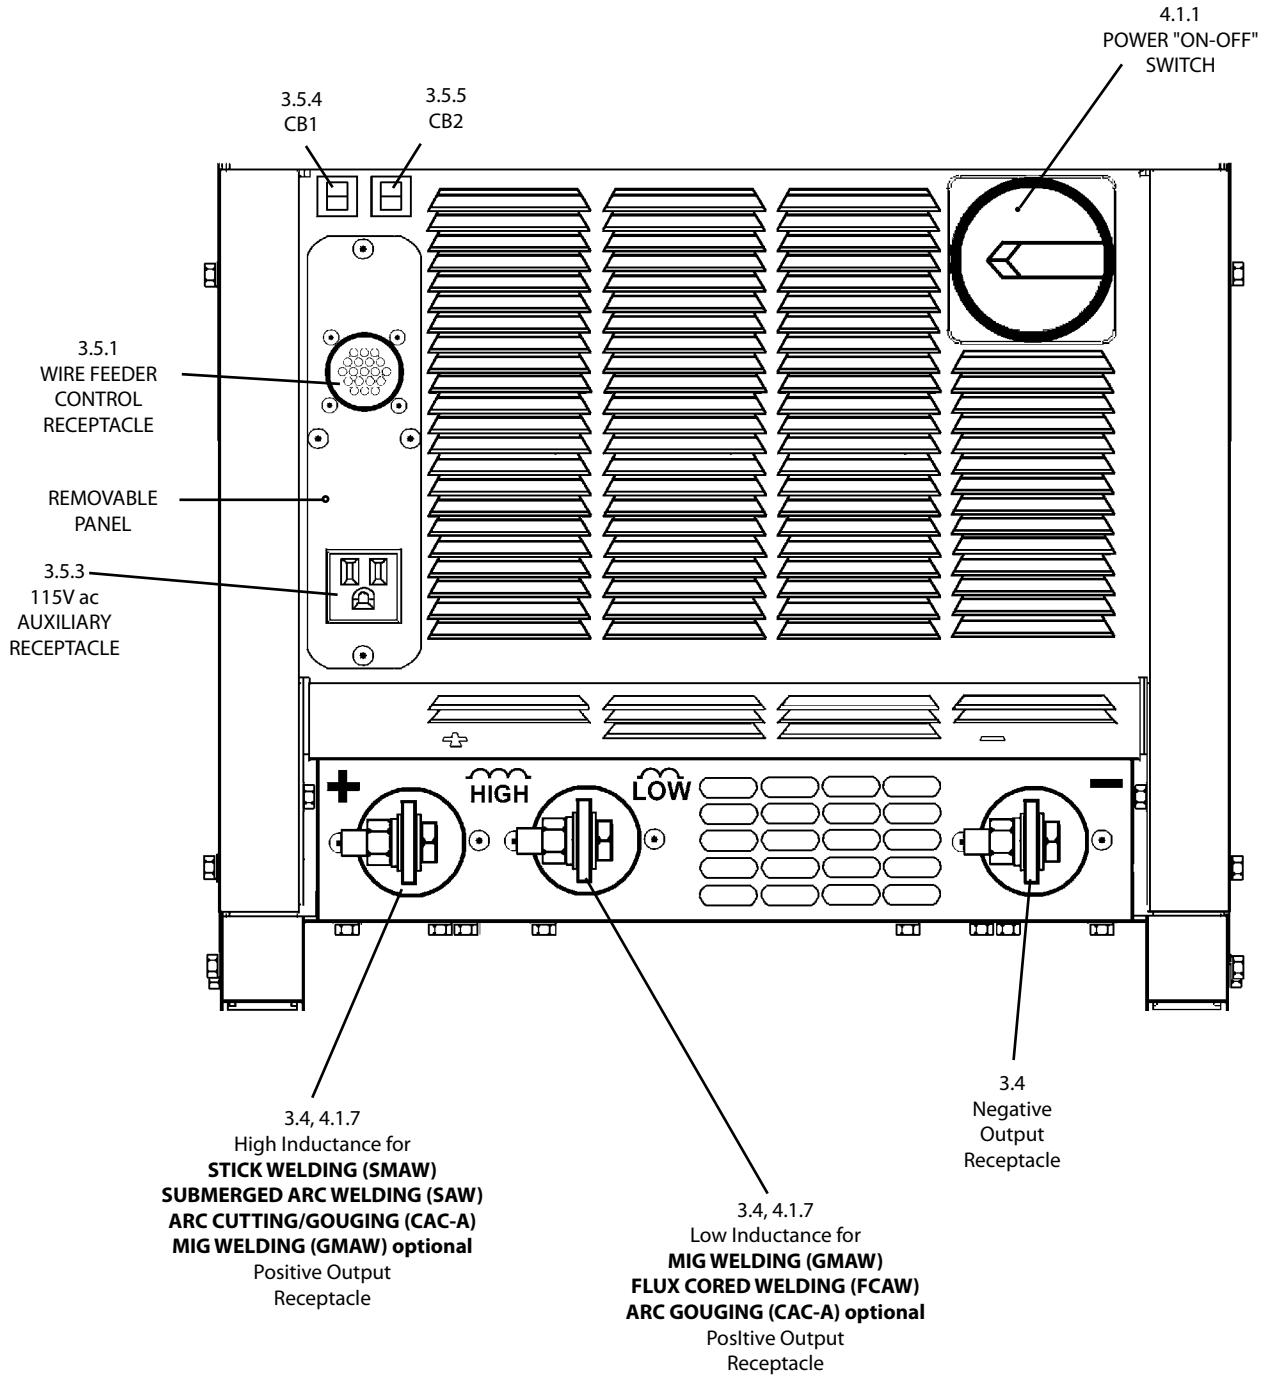

Figure 3-5. Connection Diagram
The output connections are located on the front panel (Figure 3-5). The negative connection is located at the bottom right corner and the positive (high inductance and low inductance) connections are located at the bottom left corner. Table 3-2 provides the recommended cable output sizes.
Refer to Figure 3-5.
The 653cvcc provides high and low inductance output connections (see figure 3-5). Both are positive output terminals. The high inductance terminal slows the power source dynamic response. This means the output current will build at a slower rate compared to the low inductance terminals. The welding process and application will determine which terminal should be used. The chart below provides suggested terminal connections.
- A. Make the secondary output connections to the positive and negative output receptacles. See paragraph 3.4 and figure 3-5.